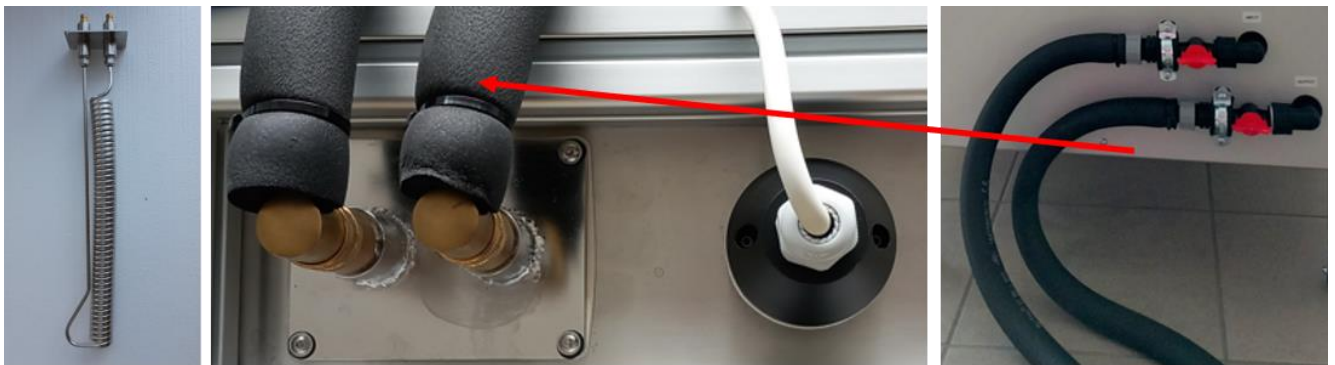

Fig. 17 Cooling coil installation.
Cooling coil (optional) installation: insert cooling coil with silicone sealing and plate in the appropriate lid port. Fix the plate with 4 screws. Connect the quick connect fittings and hoses. Connect cooling hoses to the Cooling unit. Use insulating layer wrapped around the hoses. The hose order does not matter (Fig. 17).
1. Install cooling coil in the cultivation vessel as described in Fig. 17.